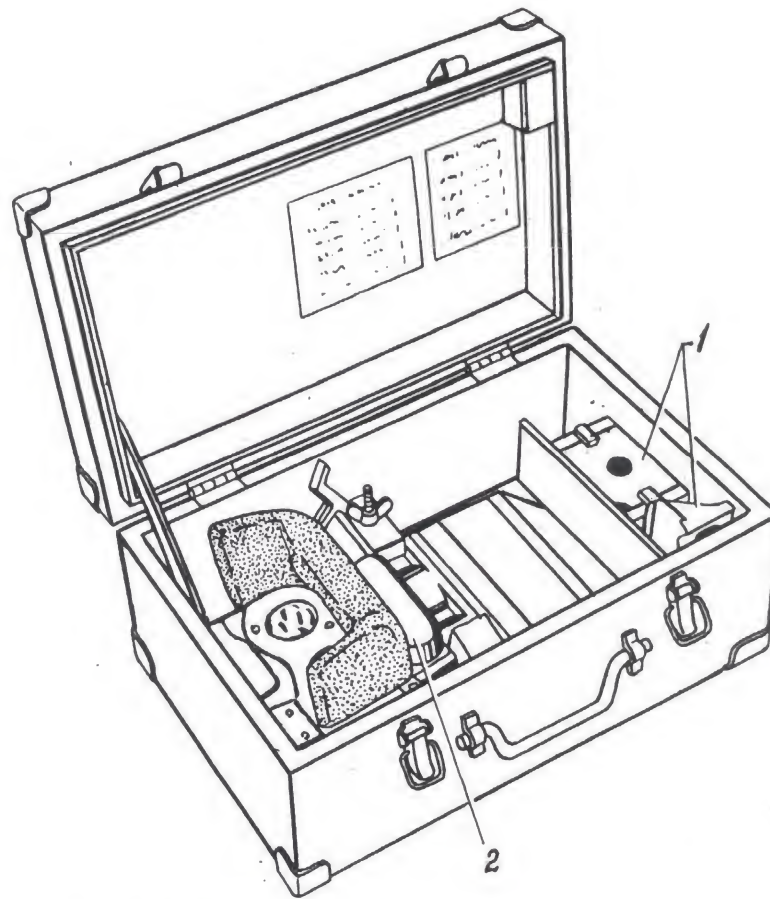

FIG. 103. STOWAGE OF NIGHT VISION DEVICE TBHO-2B
3. Spare parts and accessories arranged in the device stowage box (Fig. 103).